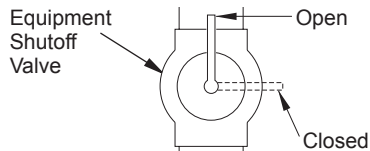

Figure 18 - Equipment Shutoff Valve
1. Close equipment shutoff valve (see Figure 18).
1. Open equipment shutoff valve (see Figure 18, page 15).